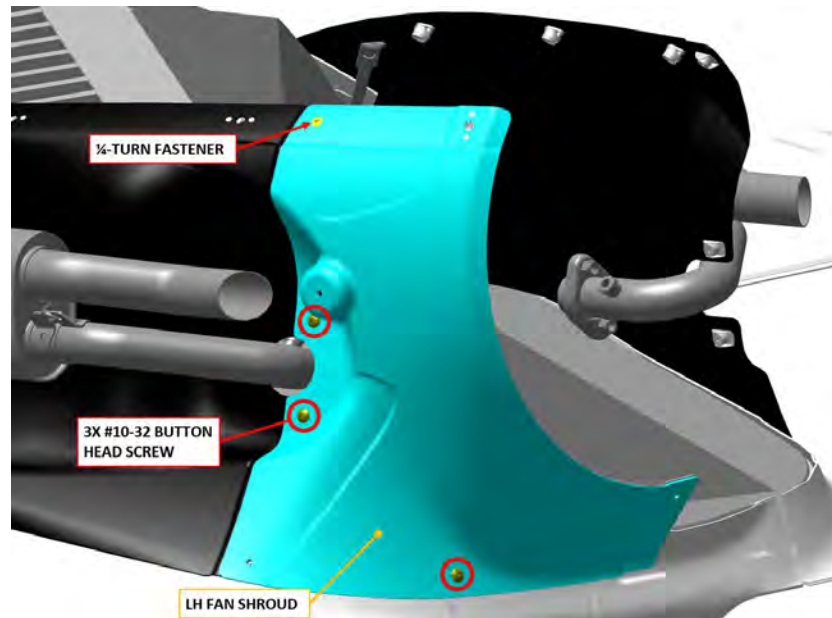

FIGURE 17-7
1. Install LH fan shroud. (See Figure 17-7.)